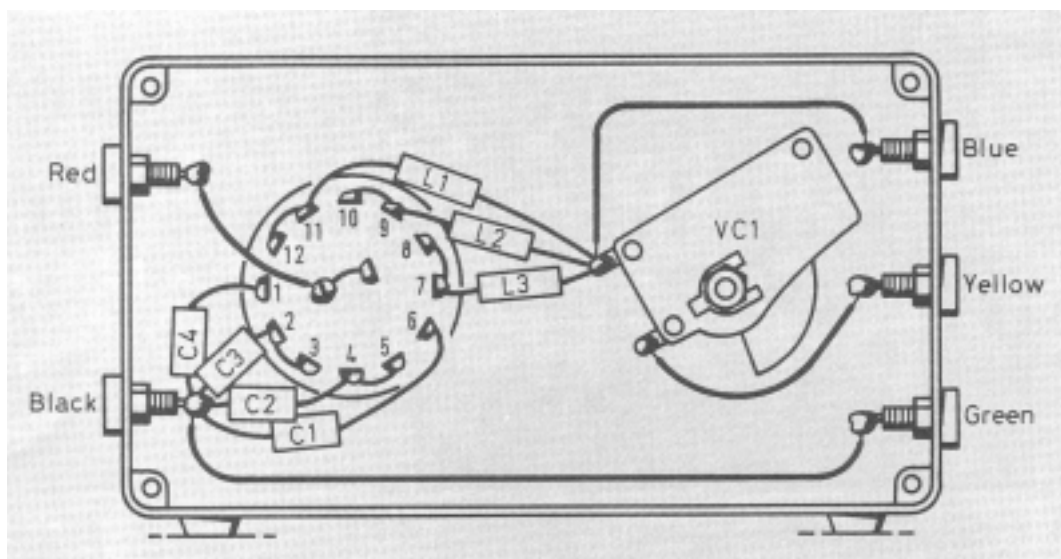

Figure 2 The internal view of the case shows the main tuning capacitor, VC1. This is a solid dielectric type, which has adjustable brass plates
6. Wire up the inductors (coils). Figure 1 and the wiring diagram of Figure 2, will help with this. As you can see, each one side of each coil is connected to two switch connections, the other end going to VC1.
8. Solder a wire between the green and black sockets. The output from the ATU comes from the red socket, and this is connected to the two tags in the centre of the switch, as Figure. 2 shows clearly.